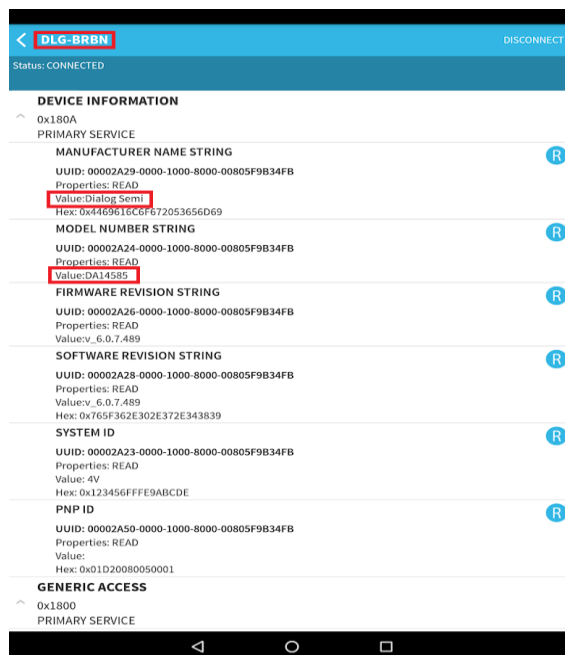

Figure 30: Barebone BLE: Interacting with BLE Application
4. Use the Android application BLE Scanner to scan for, and connect to, the **DIALOG-BRBN** app, see **Figure 30**.